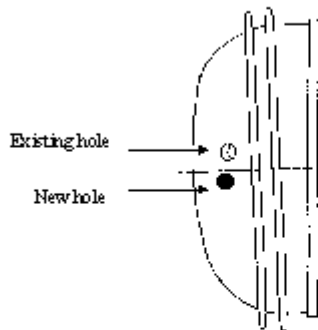

Figure 1. Drill 1/4" hole below existing grommet.
7. Carefully drill a 1/4" hole at that location by positioning the drill bit 90 degrees to the surface of the earcup and drill through the earcup wall. Be very careful to keep the wires inside the earcup away from the drill bit when drilling the hole. (Fig.1)